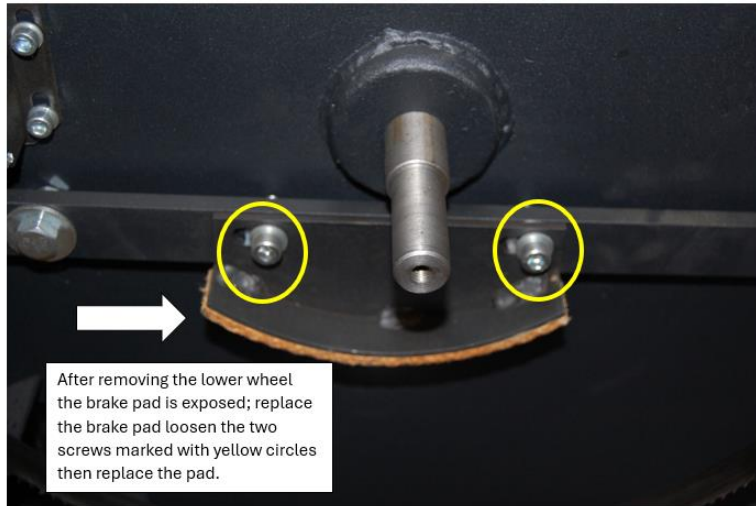

Figure 27: Replacing the brake pad.
**NOTE:** Beneath the frame, there exists a secondary hex nut Fig. 27 (step 2) on the motor pulling rod. This nut must also be loosened to facilitate upward movement of the motor for tension adjustment. Once the desired belt tension is achieved, securely tighten the motor mounting nuts that were previously loosened during the initial steps.
When it is time to change the brake pad, the lower wheel must be removed (see figure 27), the two bolts highlighted below should be loosened and the new brake pad can be installed; see the figure below.